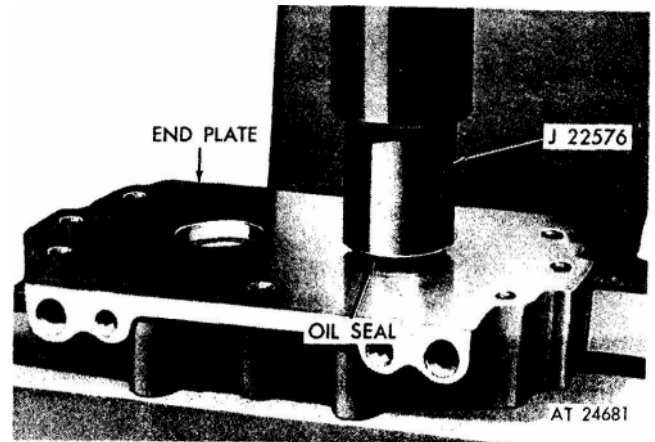

Figure 4. Installing oil seal (lip type) in end plate.
b. Lubricate the outer diameter of a new seal and, using installer J 22576, press the seal (lip face down) into the counterbored hole until the shoulder on the installer contacts the end plate (fig. 4).